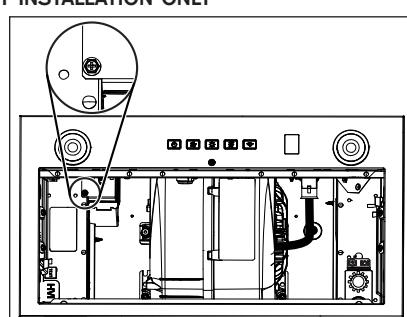

FIG. 16
5. Remove and discard the screw circled in FIG. 16. NOTE: This screw might be present or not.